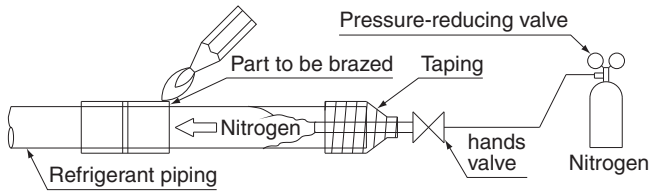

Fig. 5
- When brazing the refrigerant piping, perform nitrogen replacement first, or perform the brazing while feeding nitrogen into the refrigerant piping. (Refer to Fig. 5)